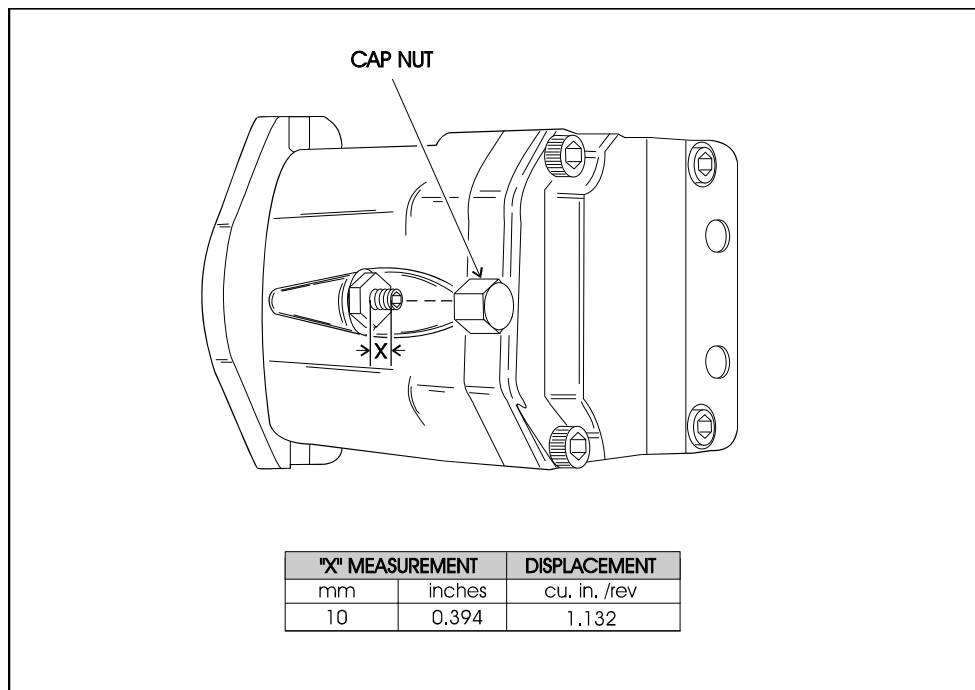

Figure 2-29. Drive Motor Adjustment
3. Measure from top of jam nut to the end of adjustment screw. (Figure 2-29., Drive Motor Adjustment)